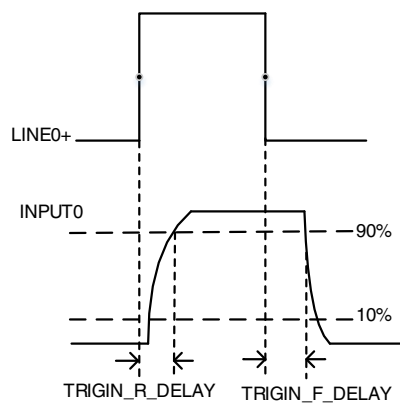

Figure 6-14 Parameter of opto-isolated input circuit
- Rising edge delay: $<6\mu\text{s}$ ($0^{\circ}\text{C}\sim 45^{\circ}\text{C}$), parameter description as shown in Figure 6-14
- Falling edge delay: $<6\mu\text{s}$ ($0^{\circ}\text{C}\sim 45^{\circ}\text{C}$), parameter description as shown in Figure 6-14